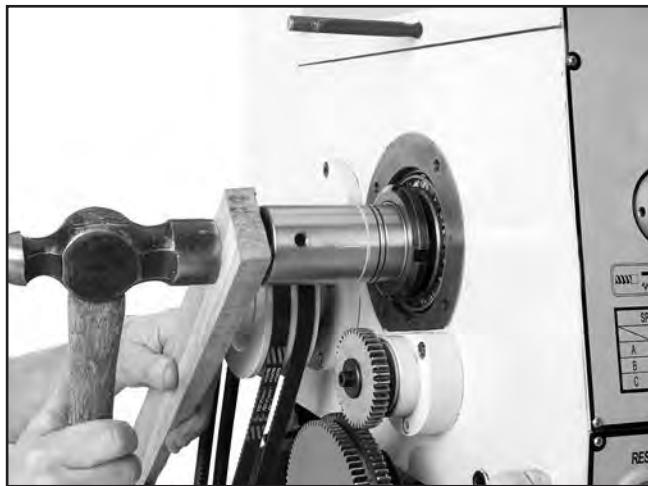

Figure 135. Introducing detectable end-play.
8. Place wooden block over outboard end of spindle, tap it a few times with a small sledge or heavy dead-blow hammer (**Figure 135**). Your goal is to slide spindle forward just enough to introduce spindle end play that you can feel by hand.